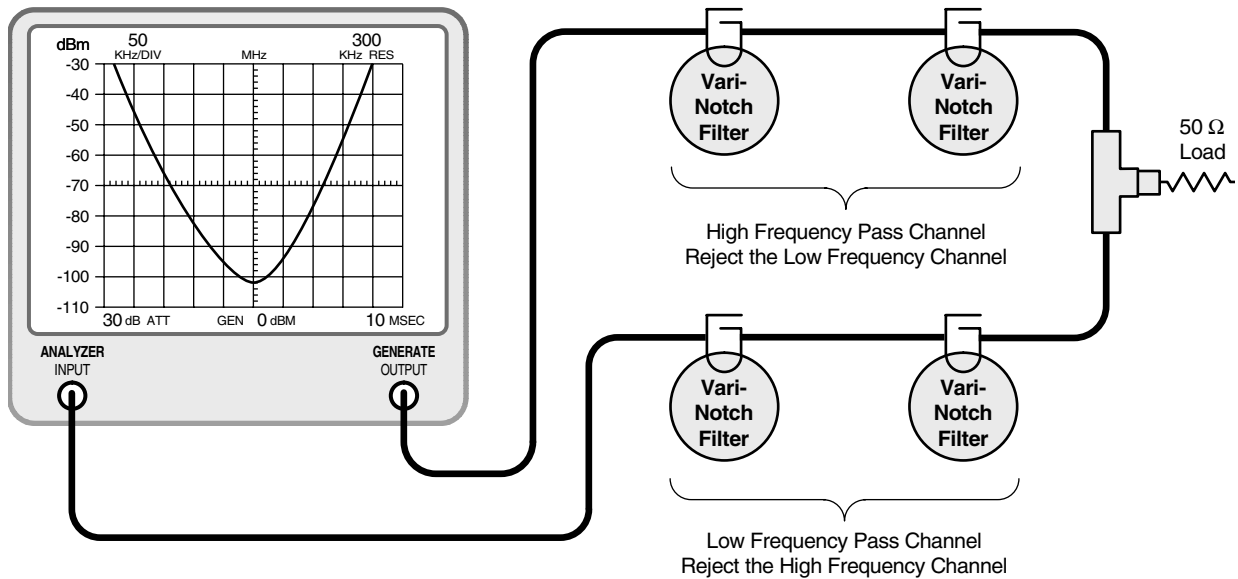

Figure 7: Equipment setup for fine tuning the rejection notch of each channel.
14. Terminate the antenna connector with a 50 ohm load. Connect the output of the tracking generator to the equipment port of one of the duplexer channels and the spectrum analyzer input to the equipment port of the remaining channel as shown in **Figure 7**.